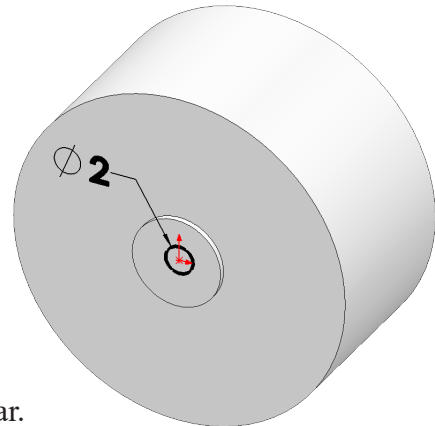

Fig. 10
Step 2. Click **Circle**  (S) on the Sketch toolbar.
Step 3. Sketch circle at Origin , **Fig. 10**.
Step 4. Click **Smart Dimension**  (S) on the Sketch toolbar.
Step 5. Dimension **diameter 2**, **Fig. 10**.